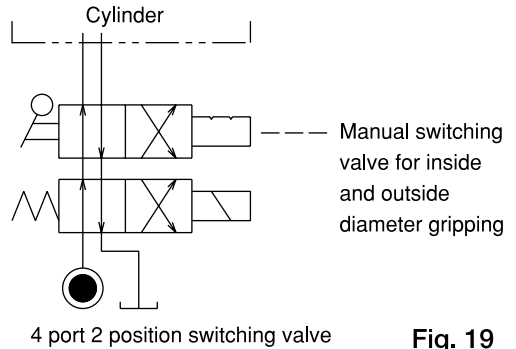

Fig. 19
- Consider the hydraulic circuit design so that the operation is easy and no mistakes in operation occur. Attempt failsafe for the circuit so as not to cause any accidents even in the case of blackout. (Fig. 19)